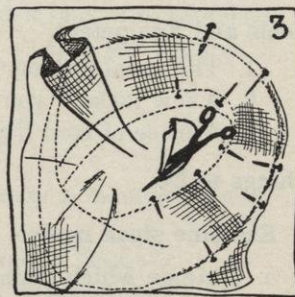

FIG. 3.
- Cut the material about $1\frac{1}{2}$ inches inside of headsize for a distance of about 3 inches, just below where it was pinned at the headsize (see Figure 3). This will allow you to *swing* the material more easily. (If you are using a block, you will have to cut either above or below the headsize, according to whether you are stretching on the top or the under facing).